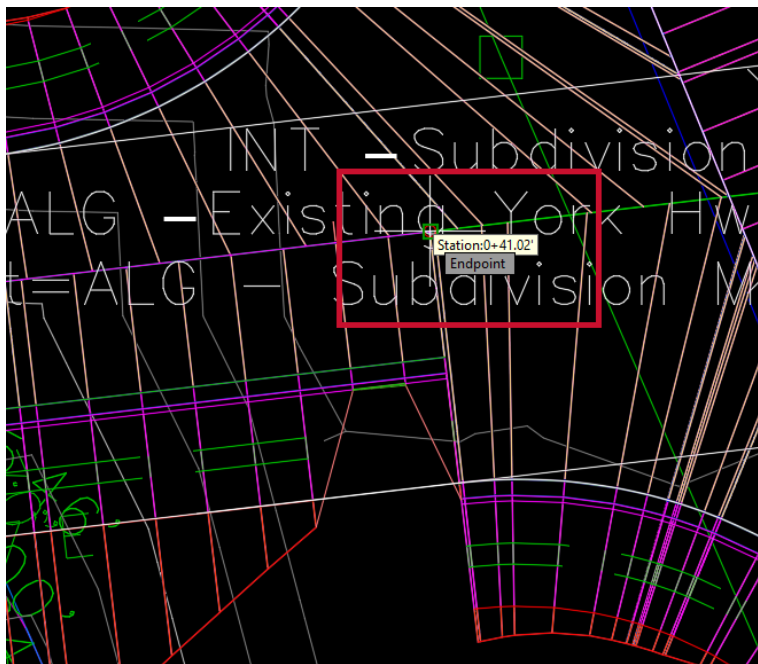

Figure 3.16 – Select the start station for the transition
5. After selecting **Width**, we'll be prompted at the command line to select a start station of the transition for the **Width** parameter. At this stage, we'll snap to the beginning of the subassembly that we just selected in *Step 3*, as shown in *Figure 3.16*.